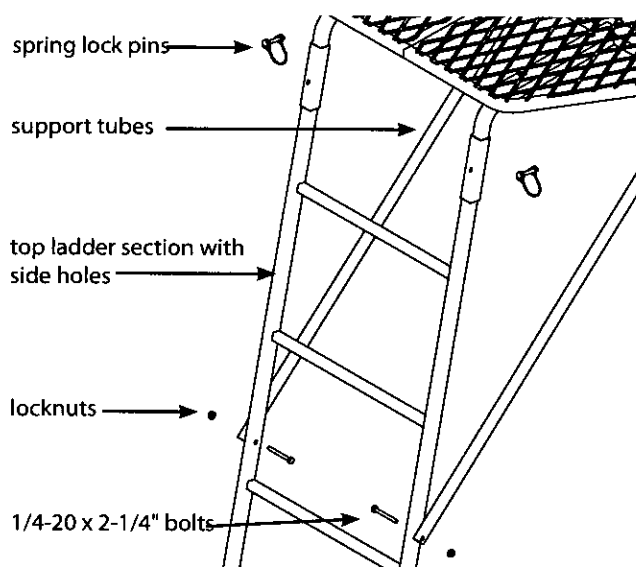

Figure 3
5. Insert the two ladder receiver J-pipes (already assembled onto the platform) into the pockets of the top ladder section with side holes (SL78). Attach the (2) support tubes (112ML75) to the outside of top ladder section using (2) provided 1/4-20 x 2-1/4" bolts and locknuts. Secure the top ladder section and assembled top platform section together using (2) provided spring lock pins. Handle of spring lock pin must be put to the outside of ladder side rails. **SEE FIGURE 3.**